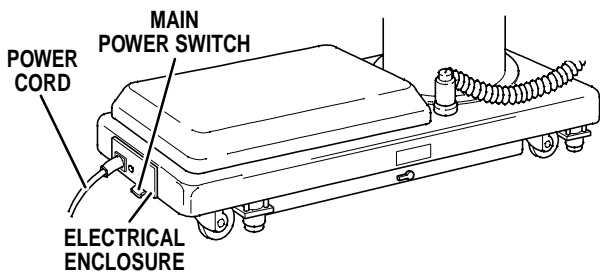

Figure 3-1. Main Power Switch
b. Depress “Main Power ON/OFF” switch on the electrical enclosure. See figure 3-1. The green POWER ON indicator light on the pendant control should now be illuminated.